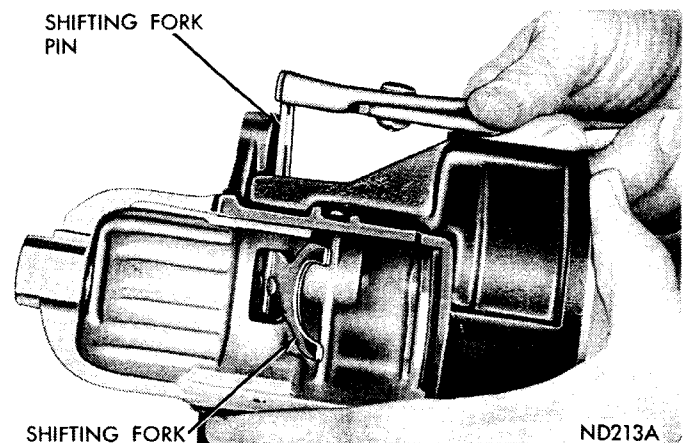

Fig. 20—Removing Shifting Fork Pin
(21) Remove shifting fork retainer pin (Fig. 20) and remove clutch shifting fork assembly.